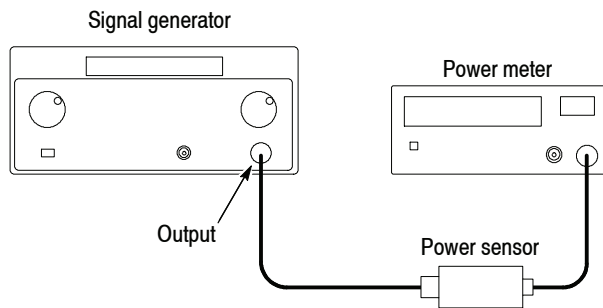

**Figure 3-10: Hookup for calibrating the power sensor**
- d. Connect the RF input of the power sensor to the power reference output of the power meter. See Figure 3-10 on page 3-24.